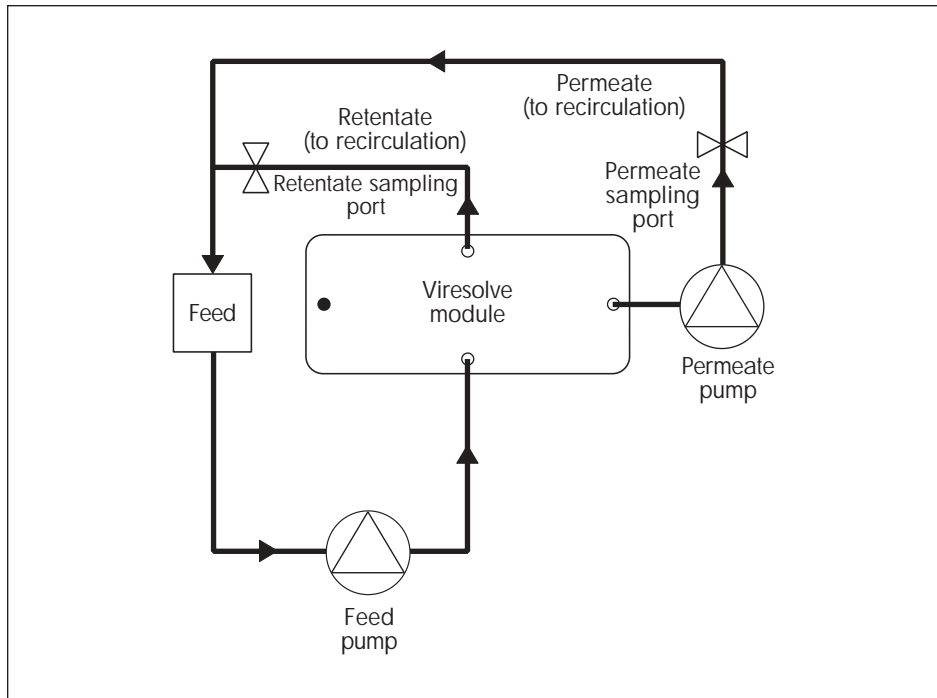

Figure 15. System Configuration for Flux Excursion
1. Fill the feed bag (reservoir) with concentrated product (a minimum of 150 mL), from which a 1 mL sample has been removed (to determine the protein concentration at $A_{280\text{ nm}}$). Assemble the system as shown in Figure 15.